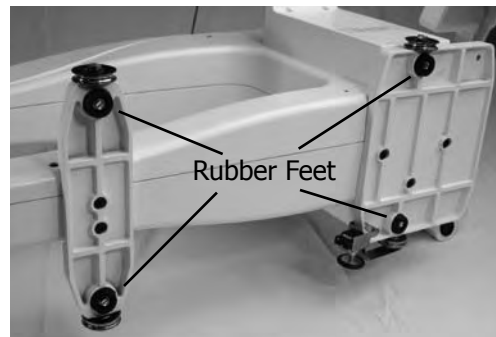

Fig. 5-A
**5-1.** To install the Belt Brackets onto your Baby Lock Jewel machine, you will first need to carefully place the machine on its side. Looking at the machine from the front (needle side), you will lay it on its left side, exposing the rubber feet as shown in Fig. 5-A.
**5-2.** If you have rubber feet on the bottom of your machine remove all the feet by unscrewing the flat-headed screw in the middle of each foot, as shown in Fig. 5-A.